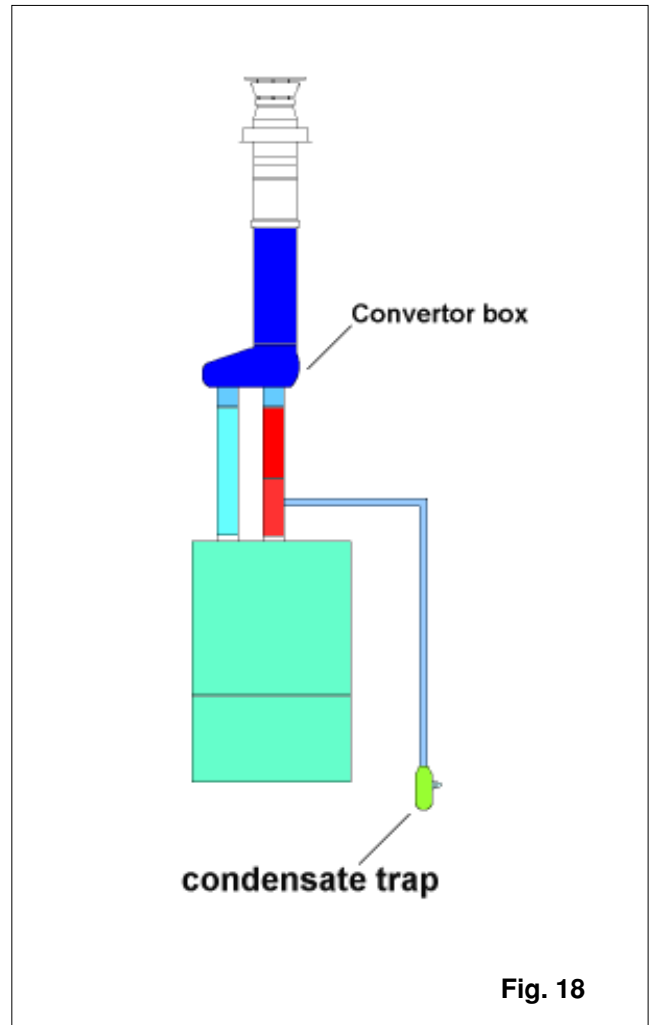

Fig. 18
5.5.3.4 Vertical termination (See fig. 18)